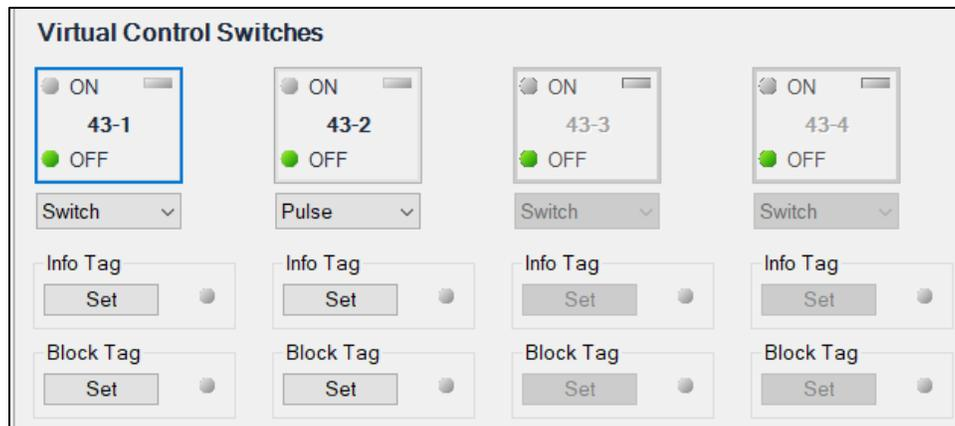

Figure 48-2. BESTCOMSPlus Virtual Switches Control Screen
Step 4: Use the Metering Explorer of BESTCOMSPPlus to open the Control, Virtual Switches tree branch (Figure 48-2). Using select-before-operate, perform the following steps to control a virtual switch.
- Step 3: Use the Metering Explorer of BESTCOMSP*lus* to open the Control, Virtual Switches tree branch (Figure 48-2). Using select-before-operate, perform the following steps to control a virtual switch.